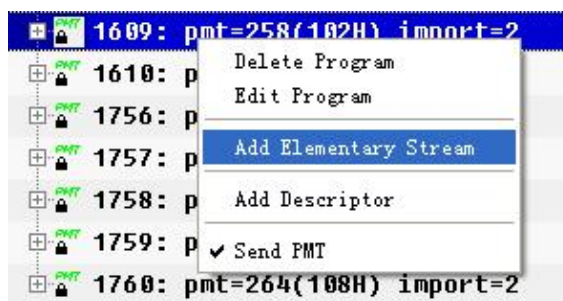

figure 3-49
- 2、right key click stream which need to add elementary stream,for example figure3-49, click 'Add Elementary Stream' in the menu